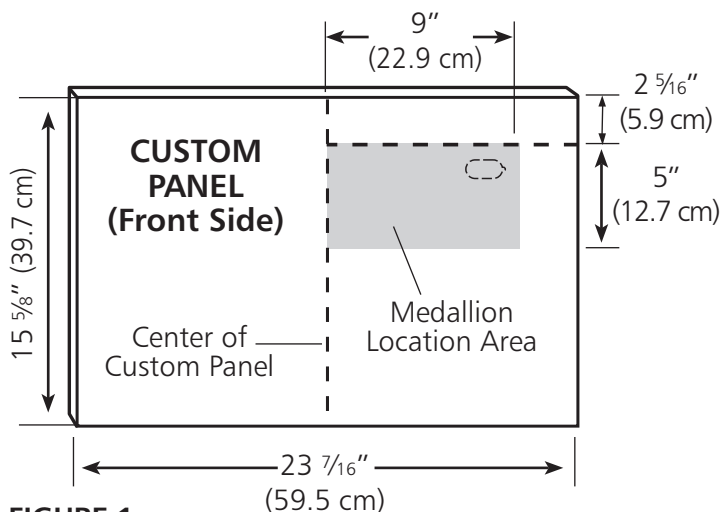

FIGURE 1
- On the front side of the custom door panel, measure, mark and cut a hole for the medallion to size as shown (See figures 1 & 2).
**NOTE:** The medallion must be placed within the specified medallion area. Do not locate outside of this specified area (See figure 1).
- Cut the custom door panel to size as shown (See figure 1). The custom panel may be wider than the dishwasher in order to match the surrounding cabinets.